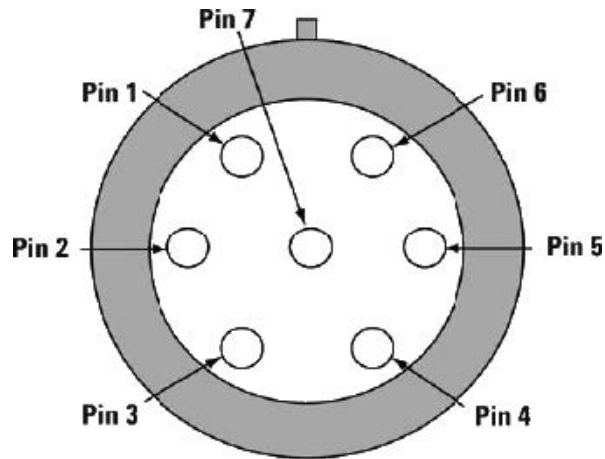

Figure 1-4 Bias connector pin locations
Figure 1-4 shows the pin locations on the bias connector. The notch and red mark on the bias connector outer ring are used as reference.
- 2 If RF1 is connected to Port 2, apply -7 Vdc to Pin 1 of bias connector (Refer to Figure 1-4) and +6.3 Vdc to Pin 2.